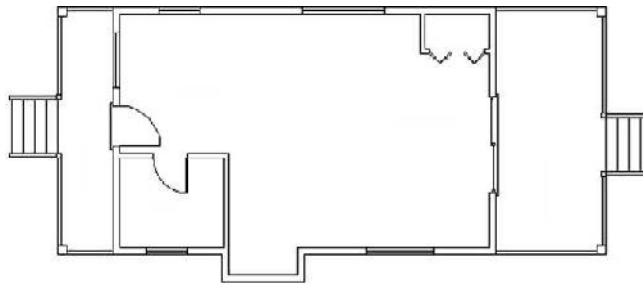

FIGURE 10.3: The floor plan with space below it for the south elevation
7. Deselect the offset line. When done, your drawing should look like Figure 10.3.